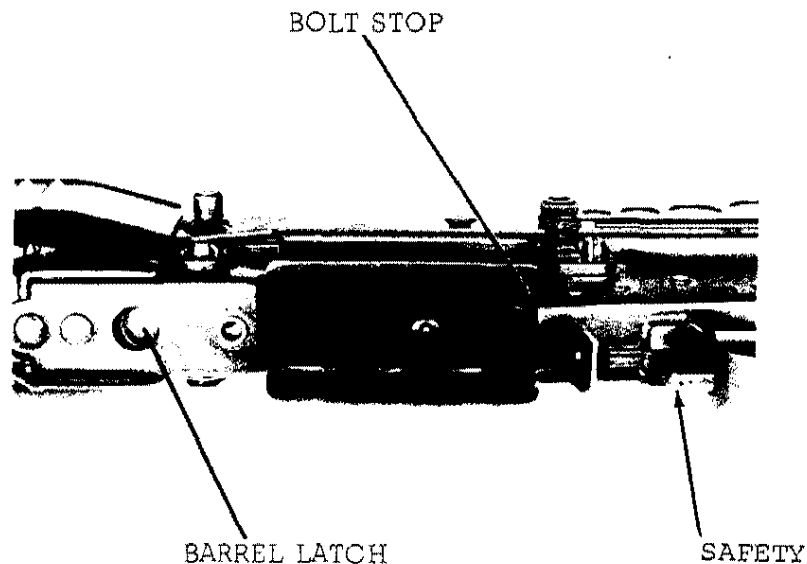

FIGURE 4. BARREL LATCH AND BOLT STOP
a. Barrel Latch. The barrel latch (figure 4) is located on the bottom of the rifle to the rear of the forearm grip. It consists of three parts, latch, lockpin and spring assembly. The lockpin is attached to the rear of the latch and locks and holds the barrel into position.
b. Bolt Stop. The bolt stop (figure 4) is located inside and at the rear of the magazine well. It holds the bolt and carrier in the open position when required by the operator or when the last round has been fired. To engage the bolt, pull the cocking handle to the rear and push up on the bolt stop. To release, pull back on the cocking handle or strike the butt sharply with the hand.